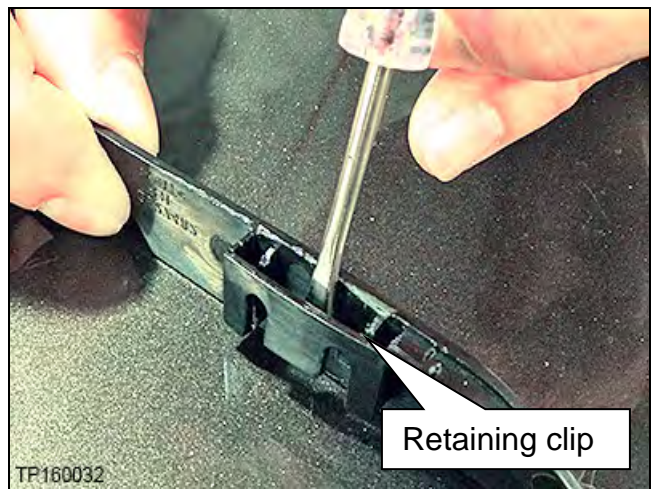

Figure 55
- Figure 55 shows how retaining clip is released.